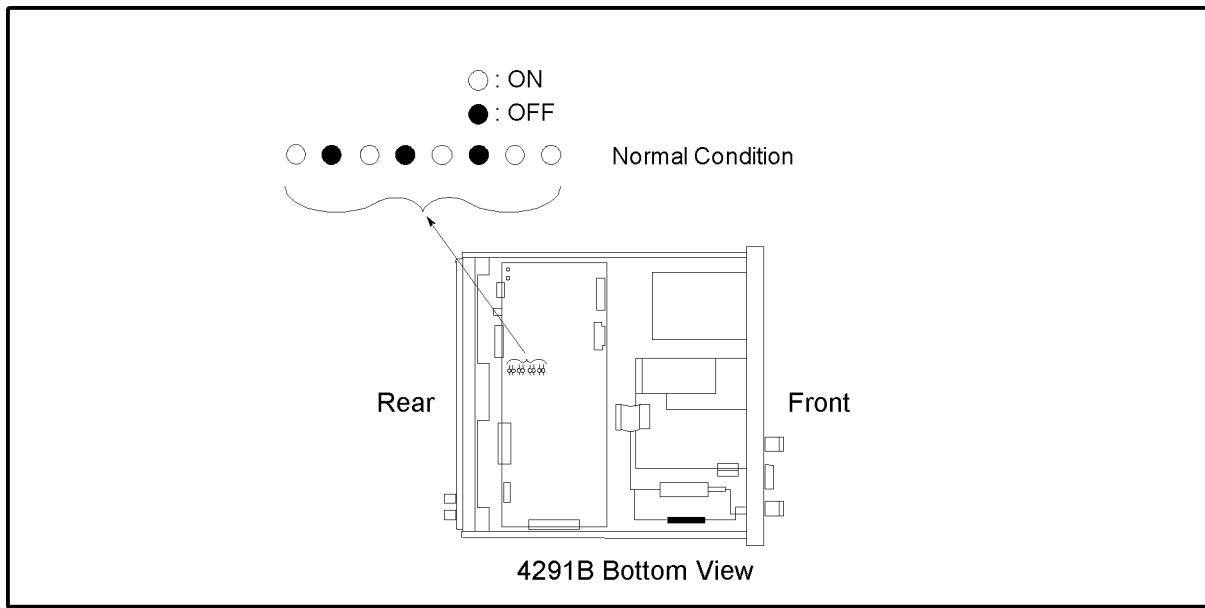

Figure 6-2. A1 Eight LEDs' Pattern
There are eight LEDs on the A1 CPU. These LEDs should be in the pattern shown in Figure 6-2 at the end of the power on sequence. Perform the following procedure to check the A1 eight LEDs.
- d. Look at the A1 eight LEDs. Some of the LEDs light during the power on sequence. At the end of the power on sequence, the LEDs should stay in the pattern shown in Figure 6-2. If the LEDs stay in the other pattern, the A1 CPU is probably faulty. Replace the A1 CPU.